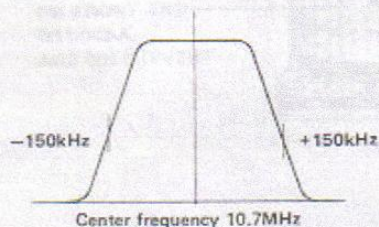

Fig. 1
5. Align core of T1 for maximum gain and symmetry to obtain scope pattern as in Fig. 1.